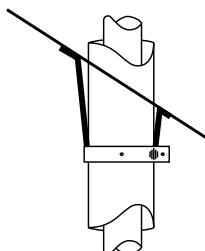

**Figure 37 -
- 7DVCS supports offsets. *Figure 37*. This application will require that you first determine the roof pitch and use the appropriate starter kit. (Refer to Venting Components List)
6. Place firestop(s) or Attic Insulation Shield into position and secure. *Figure 37*